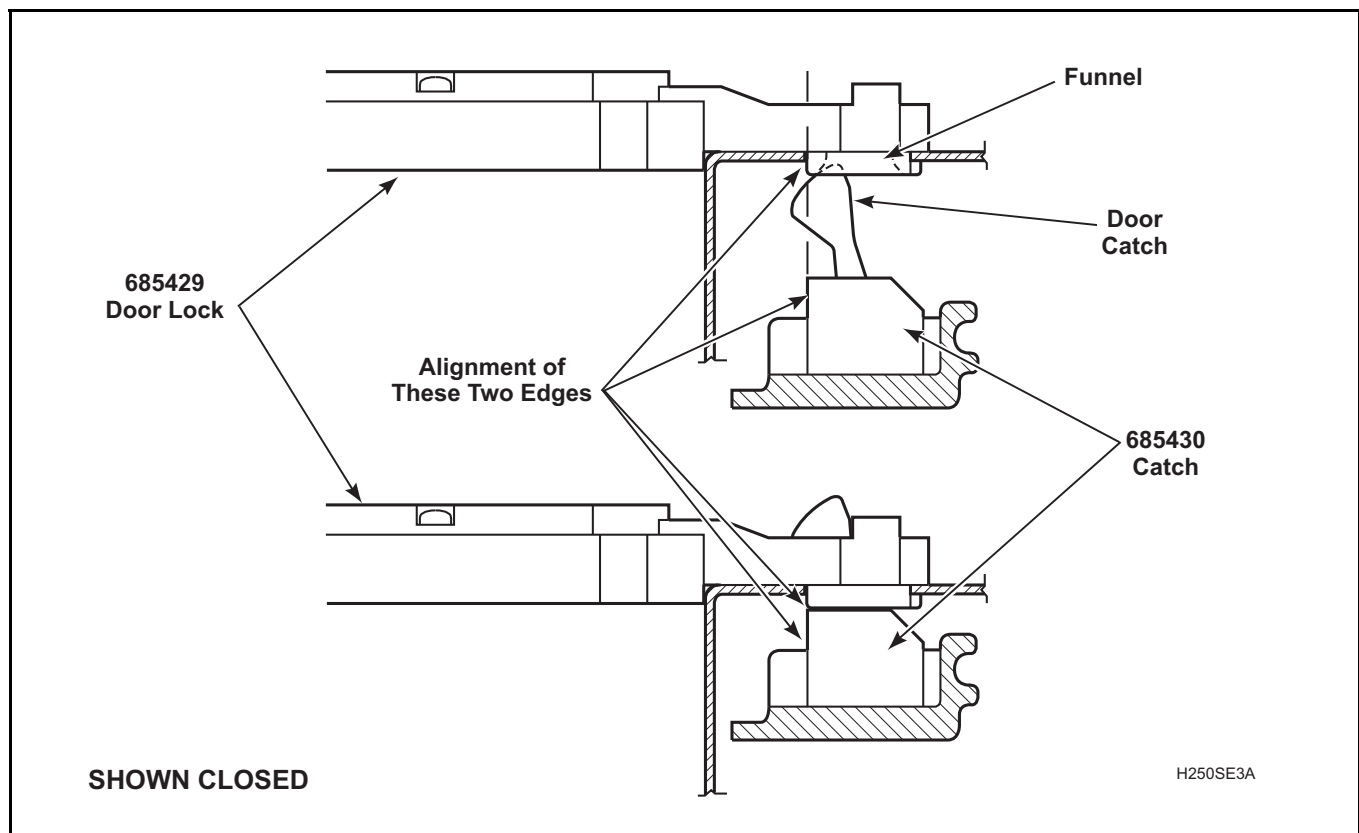

Figure 48
- Adjust door catch so the outside edge is aligned with the edge of the latch. Refer to *Figure 48*.
- Visually check that the door catch properly engages the funnel of the door latch/switch assembly. Refer to *Figure 48*.